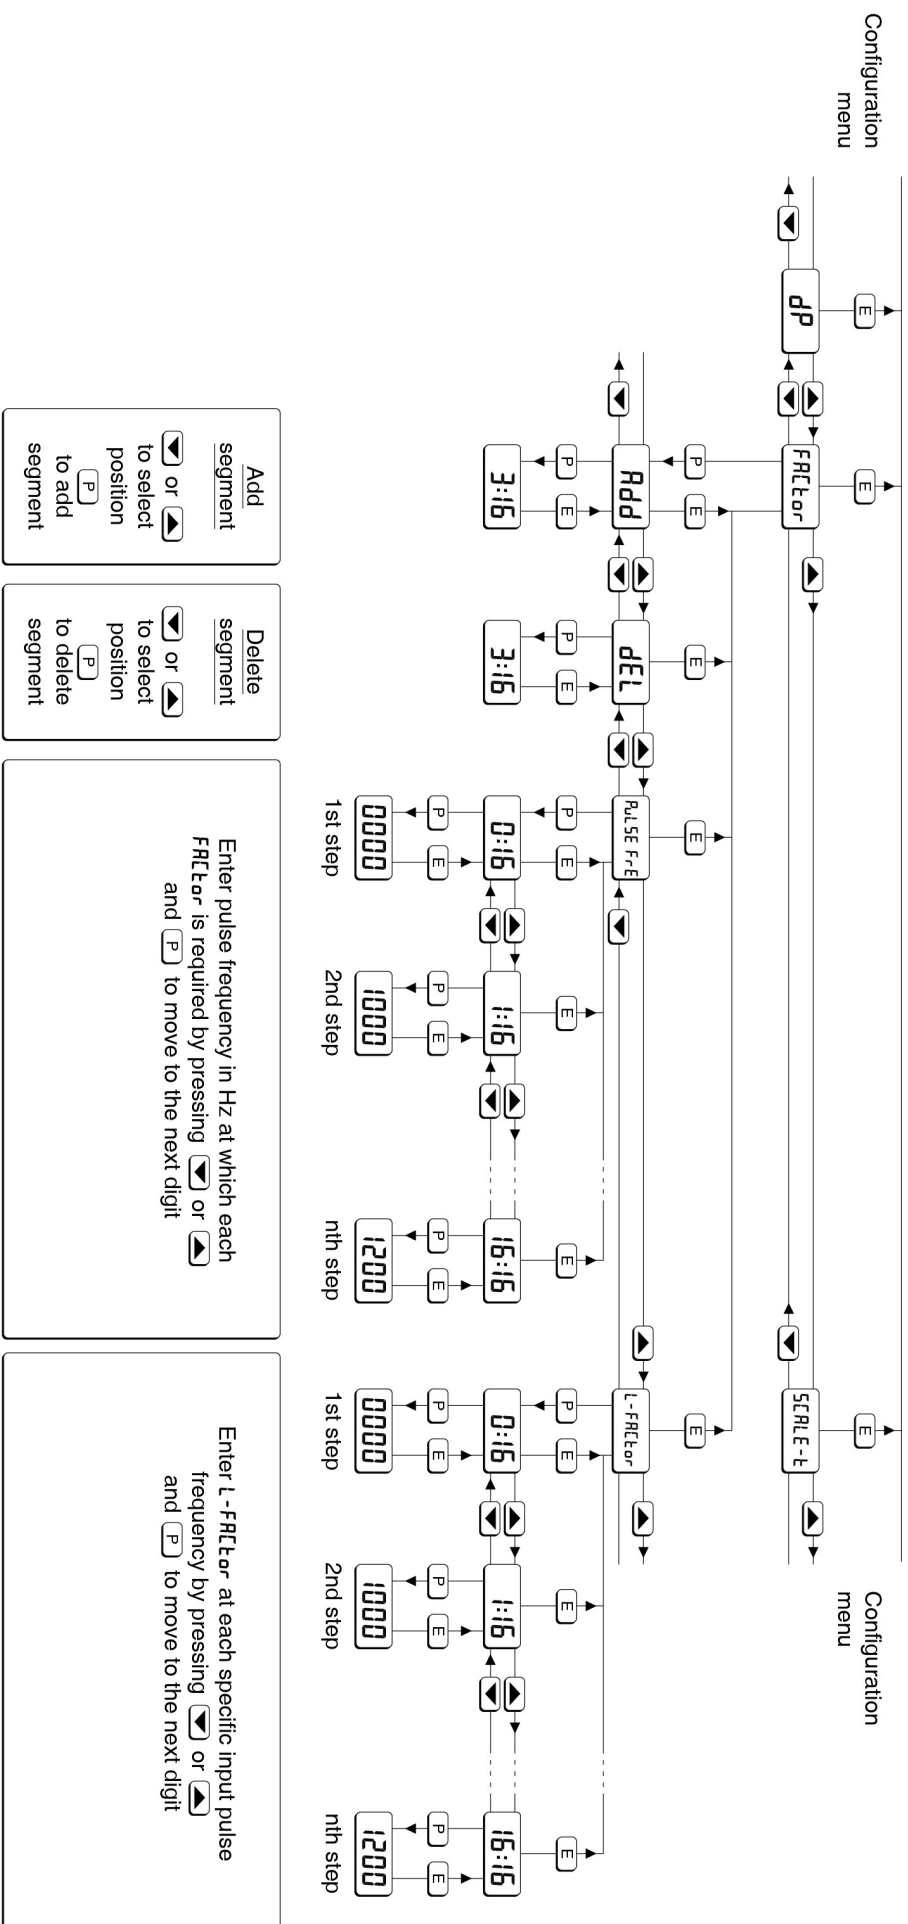

Fig 15 Lineariser configuration menu
Fig 15 shows how the Rate Totaliser configuration function **FRector** is extended when the lineariser is activated by selecting **LIN** in the **FUNCTION** menu.
This section summarises the lineariser configuration functions. When read in conjunction with Fig 15 it provides a quick aid for configuring the lineariser. If more detail is required, each section contains a reference to a full description of the function.
*L-FRCEtor* is a sub-menu in the *FRCEtor* function for entering the flowmeter K-factor for each of the lineariser segments, see Fig 15.